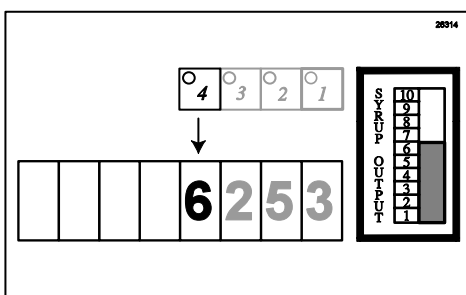

Figure 171
- Touch the #4 key and record as your third number from the right. (See Figure 171.)